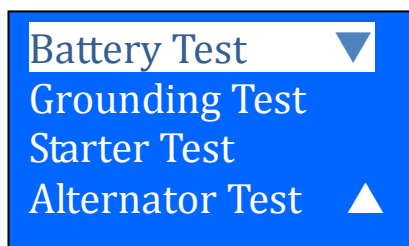

Figure 14
3. After you have made your choice, selecting "New: Clear Memory" or "Continue...Test" will proceed to the display below: (Fig. 14)
5. As an example (Fig.14) the selected item was on "Battery Test" and it is being highlighted.